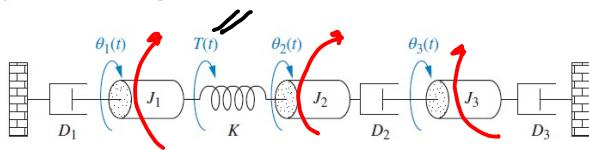

FIGURE 2.25 Three-degrees-of-freedom rotational system
**PROBLEM:** Write, but do not solve, the Laplace transform of the equations of motion for the system shown in Figure 2.25.